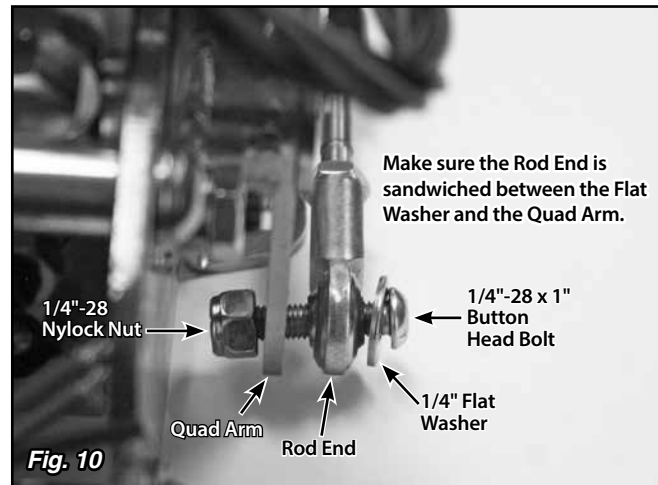

Fig. 10
**Step 14:** Attach the other rod end to the quad arm on the Shifter using a 1/4"-28 x 1" button head bolt, flat washer, and nylock nut. **Fig. 10** Make sure the rod end is sandwiched between the quad arm and the flat washer.